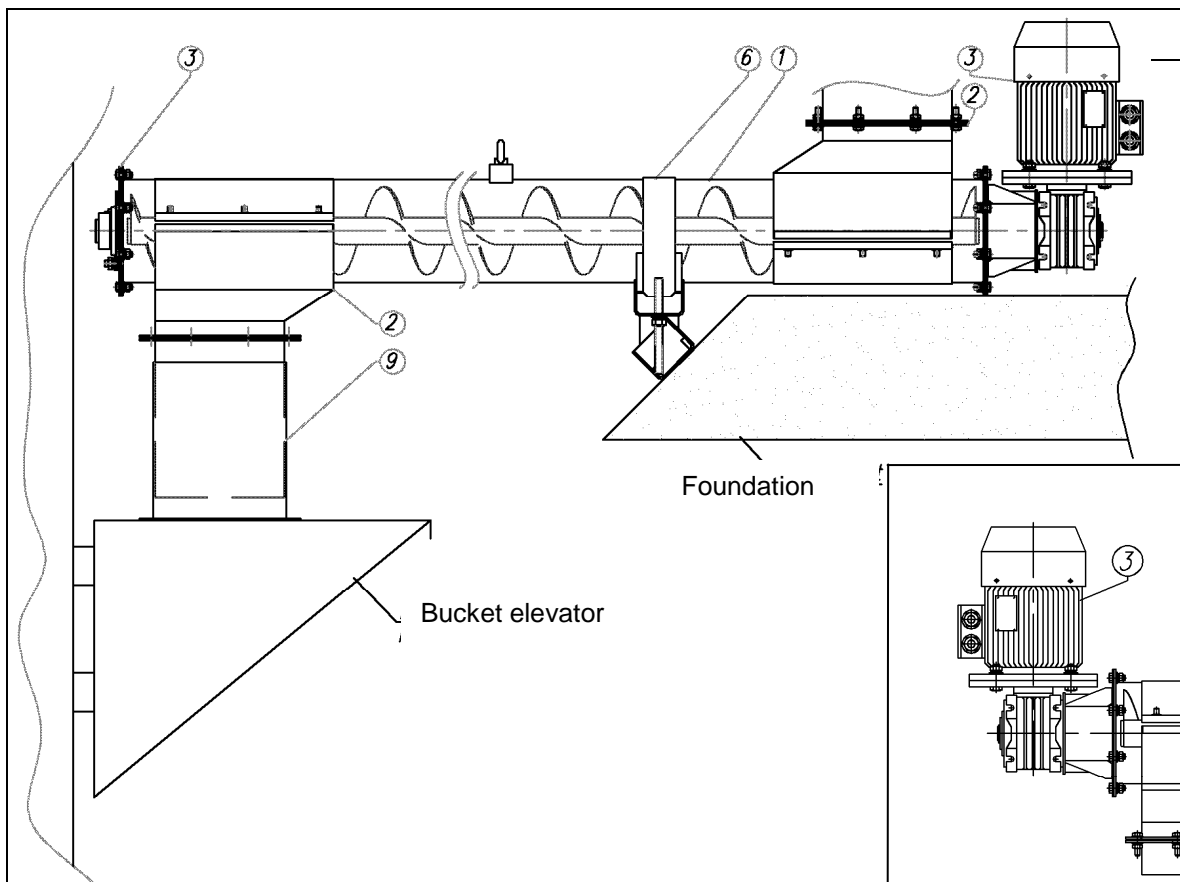

Fig.32 PS160- version with RURATEL200-0.4
- c) Using the telescopic pipe 9 (Fig.32) - RURATEL200-0.4 in the assembling allows mounting the conveyor to other technological devices, such as bucket conveyors, silos etc.